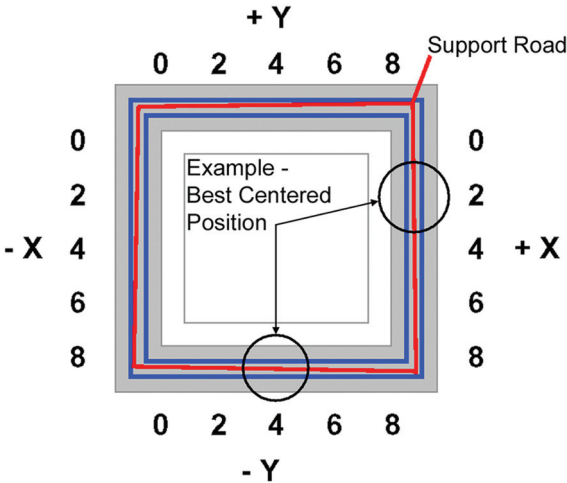

Figure 23: Example XY Tip Offset Part.
4. Inspect the part and calibrate the X and Y axes (See Figure 23 on page 56).